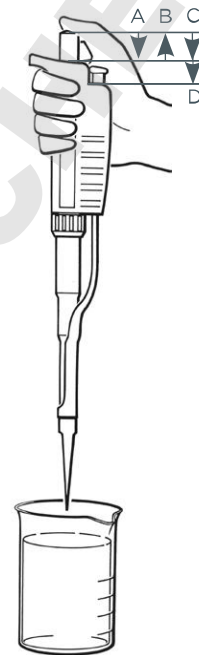

Figure 3
- Press the push button to the first positive stop (A), refer to Figure 3.
- Release the push button **slowly** and **smoothly** to aspirate the liquid (B), refer to Figure 3.
- Place the end of the tip against the inside wall of the vessel at an angle of 10 to 40 degrees. Press the push button smoothly to the first stop (C), refer to Figure 3. Wait one second. Press the push button to the second stop to expel any residual liquid from the tip (D), refer to Figure 3.